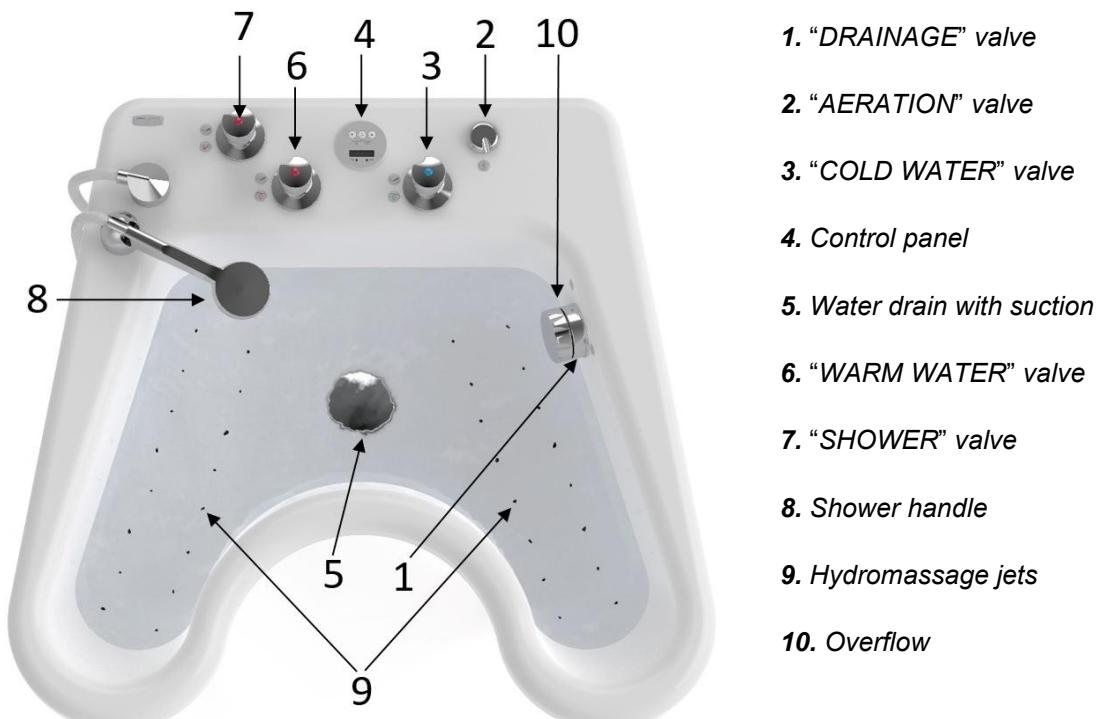

Figure 1 - WKG whirl massage device for upper limbs view
Filling the basin with water is carried out by manually opening the hot/cold water valves (fig.1 item 3 and 6) or by an automatic filling system (option).
The whirlpool massage system is realised by an electronically driven water pump, which pumps water under pressure through 44 nozzles (fig.1 item 9) located in the device basin.